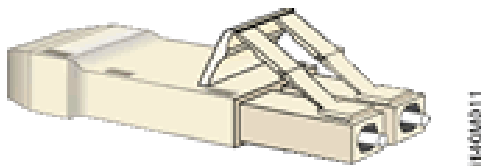

Figure 1-6 Loopback Plug
- **Loopback plug** - A multimode (shortwave laser) loopback plug (Figure 1-6) is required to perform port diagnostic tests. Loopback plugs are shipped with the product, depending on the types of port transceivers installed.